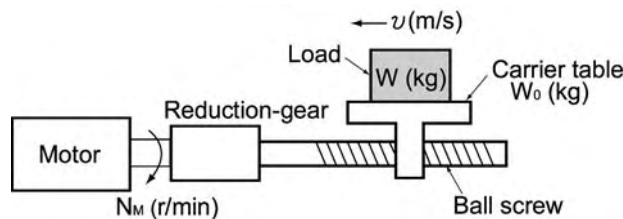

Figure 7.7 Moving a Load Horizontally
A simplified mechanical configuration is assumed as shown in Figure 7.7. If the mass of the carrier table is W_0 (kg), the load is W (kg), and the friction coefficient of the ball screw is μ , then the friction force F (N) is expressed as follows, which is equal to a required force for driving the load:
Assume a carrier table driven by a motor as shown in Figure 7.7. If the table speed is v (m/s) when the motor speed is N_M (r/min), then an equivalent distance from the shaft is equal to $60 \cdot v / (2\pi \cdot N_M)$ (m). The moment of inertia of the table and load to the shaft is calculated as follows: